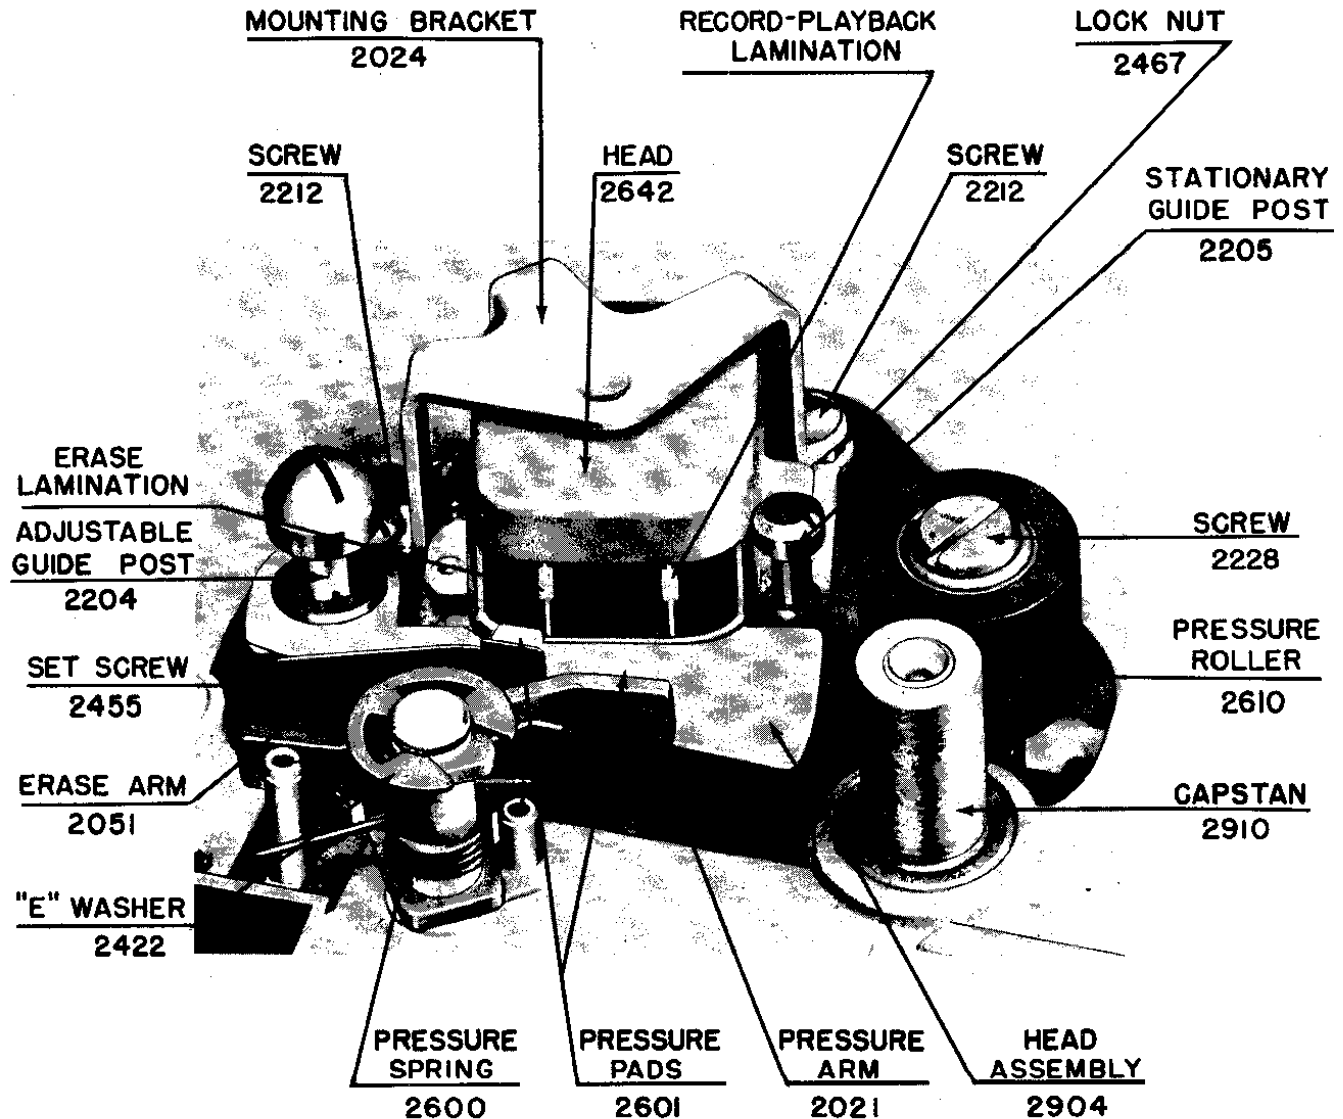

FIG. 2 - Recorder with Head Covers Removed Showing Head Mechanism.
- (1) Remove head covers.
- (2) Remove mounting bracket #2024 (note assembly of #2212 screws and #2467 lock nuts, see Fig. 2).
- (3) Remove head wire leads from clips on under side of top casting and remove head plug from socket.
- (4) Place Function switch in PLAY position and remove head wiring and plug through clearance in casting.
(5) Return Function switch to STOP position.
(6) The tape guide post #2204 will have to be re-aligned with the position of the head. This is accomplished by loosening set screw #2425 and adjusting the guide for maximum signal output using a 1000 cycle head alignment tape.